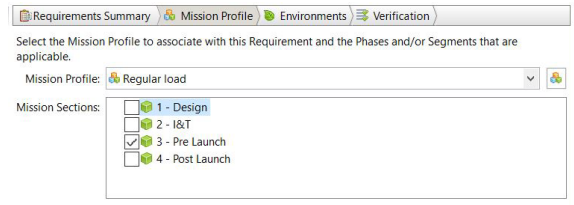
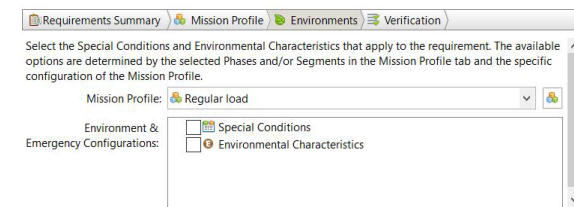

Figure B54: Example RVT Mission Profile Selection
Figure B55: RVT Environments Category
- 2) Select the applicability of each requirement by opening the *Mission Profile* (Figure B54) and *Environments* (Figure B55) tabs of the *Requirement Details* section of the *RVT Requirements* window and activating the appropriate checkboxes.